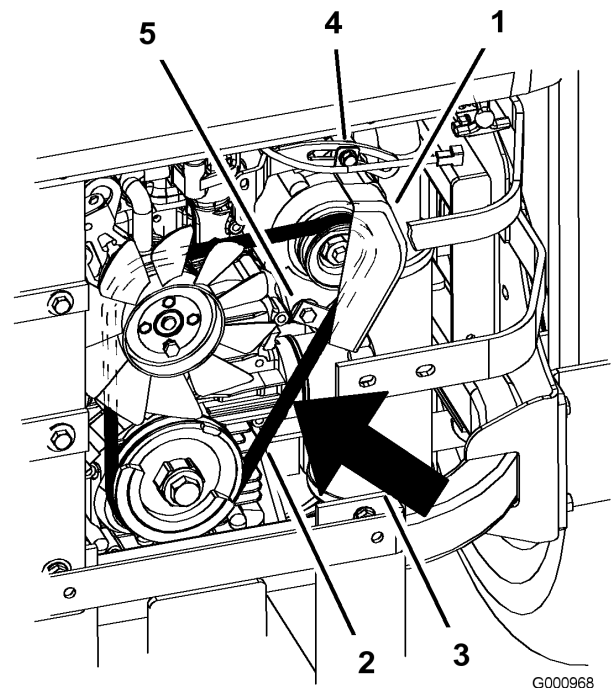

Figure 58
- Loosen the bottom bolt and remove the upper bolt holding the alternator and cover (Figure 58).
- Install a new belt around the pulleys and the alternator (Figure 58).
- Tighten the bottom bolt and install the upper bolt holding the alternator and cover (Figure 58).
- Adjust the alternator to the outside until there is 1/4 to 11/32 inch (7 to 9 mm) deflection in the belt between the engine and the alternator pulleys with 22.1 lbs of force (10 kgf) (Figure 58).
- If the deflection is correct, tighten the bottom and upper bolt (Figure 58).